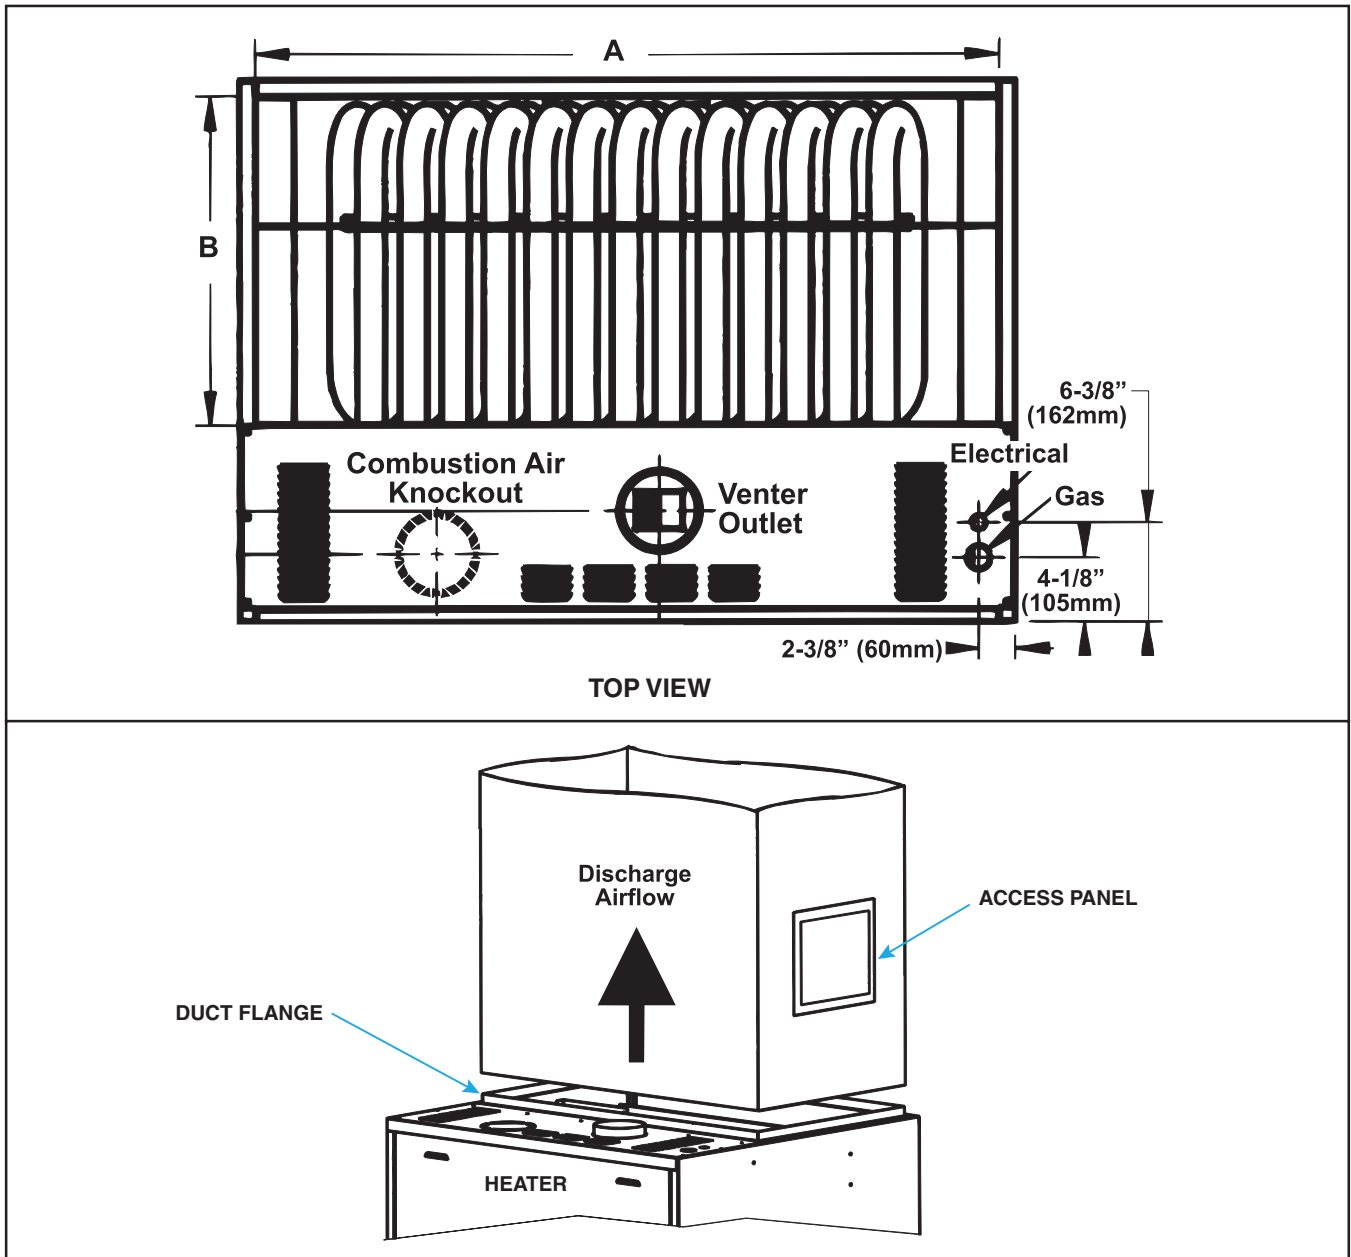

Figure 2. Discharge Duct Connection (Refer to Table 7)
- The discharge duct connects to the top of the heater or to the outlet of the optional cooling coil cabinet. Connect the ductwork plenum to the duct flange as shown in Figure 2. The duct connection on the top of the heater has a 90° flange. The duct may either have no flange or a 90° flange. Position ductwork around the outside of the heater flange. If the ductwork has a flange, drill holes vertically through duct flange into the top of the heater and secure using sheet metal screws. If the ductwork does not have a flange, drill holes horizontally through the ductwork and the heater flange and secure using sheet metal screws.
- **Removable access panel in ductwork (see Figure 2):** Minimum size is 6 inches × 10 inches (152 mm × 254 mm). Panel must be sealed.
Dimension (See Figure 2)	Unit Size